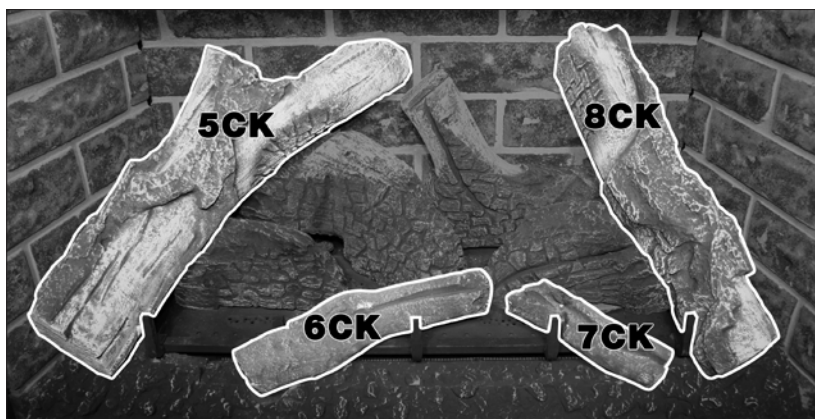

Figure 9.6, Completed Installation
2. Align the two (2) holes in the bottom of log 1CK with the two (2) mounting pins at the back of the burner. Push the log down onto the pins to seat. Repeat for log 2CK.
6. Position logs 6CK and 7CK as shown in Figure 9.6.